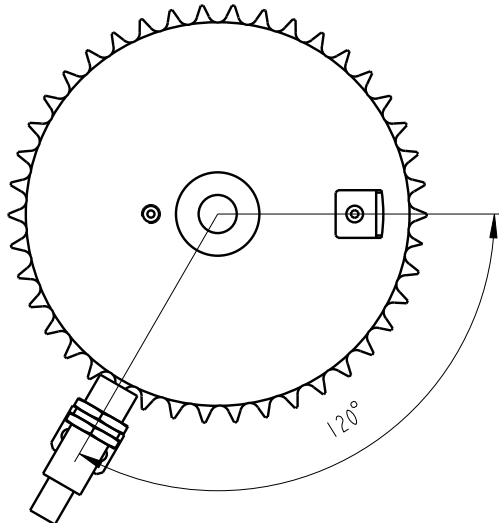

Fig. 36
- 3 To obtain correct stop position, check position of drive sprocket. The angle between sensor and sensor plate should be 120 degrees, see Fig. 36, corresponding to 14, 10 or 7 teeth on the sprocket, depending of machine type, see table below.